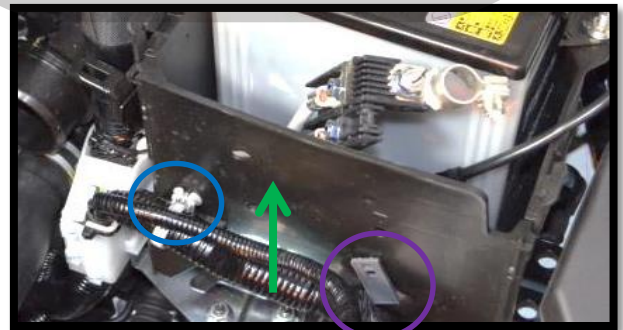

Figure 2c
- e) Remove the front battery box panel. Remove the MAF wiring harness clip (**blue circle Figure 2c**), and negative battery cable clip (**purple circle Figure 2c**), from the front battery box panel using needle nose pliers to compress the clips on the inside of the battery box. Then slide the panel upwards and remove it (**green arrow** in **Figure 2c**).